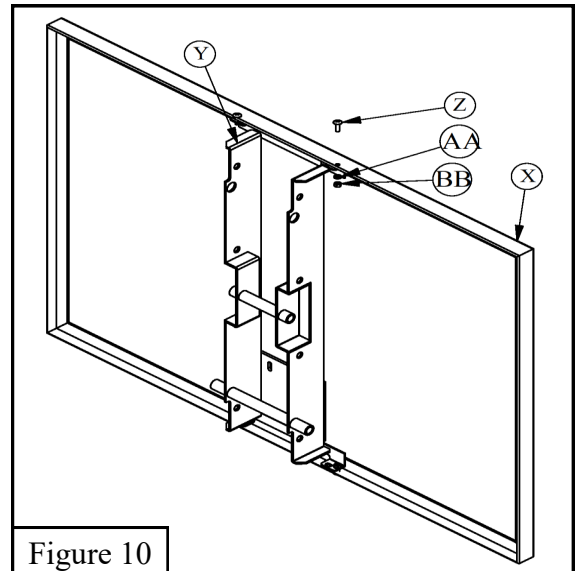

Figure 10
1. Use the $5/16'' \times 1''$ Machine Screws (Z), $5/16''$ Lock Washers (AA) and $5/16''$ Hex Nuts (BB) to install *Backboard H-Frame* (Y) into *Backboard* (X). See Figure 10.
2. Once *Backboard* (X) is assembled refer to instruction 12 to complete system assembly.